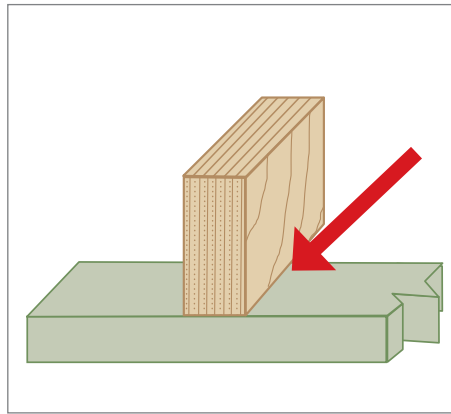

Figure 2: Load bearing capacities of supported plates must be checked, not just the beams.
Notwithstanding this, designers need to be aware that when beams are supported by timber wall plates, there are two (2) bearing capacities that need to be considered, one of the supported beam, and the other of the supported plate (see Figure 2, above right). Sadly, experience shows that this latter check is sometimes ignored creating some expensive remedial cost consequences.